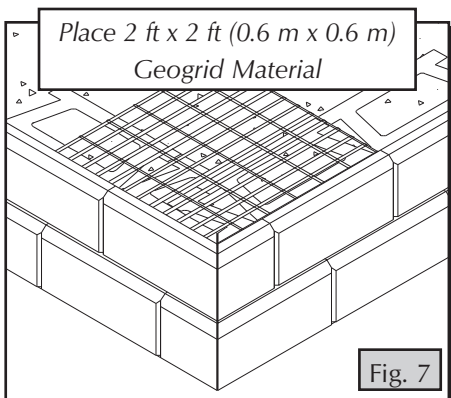

Fig. 7
- Place 2 ft x 2 ft (0.6 m x 0.6 m) layer of geogrid on top of 2nd course blocks (Fig. 7). Repeat this procedure on every other layer of block.